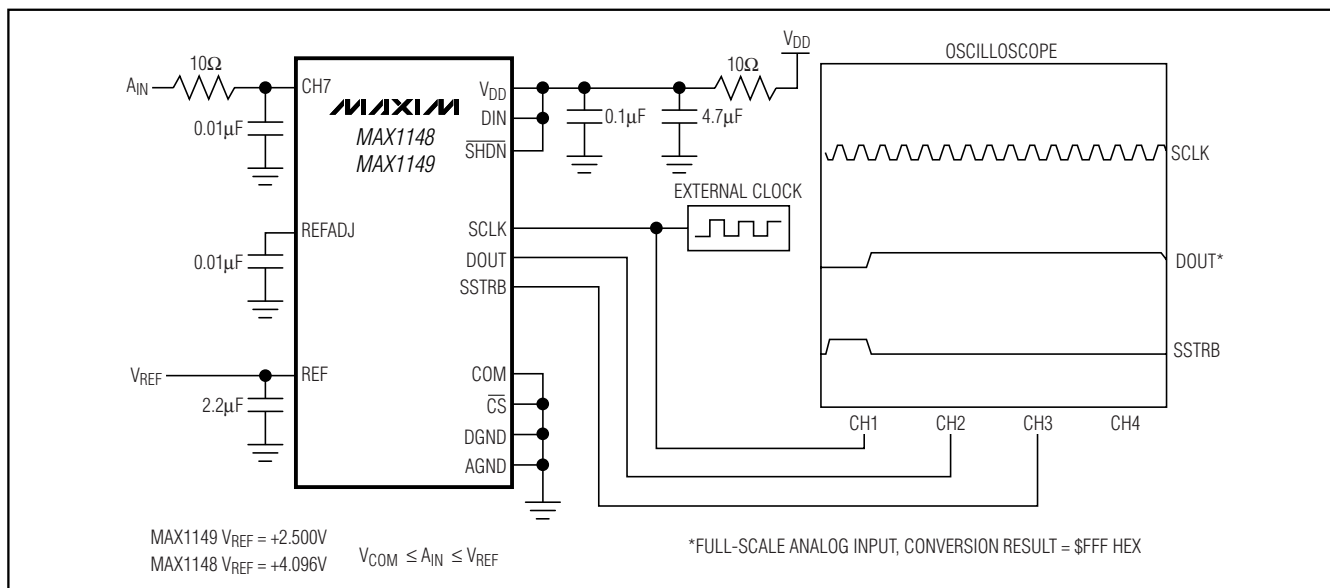
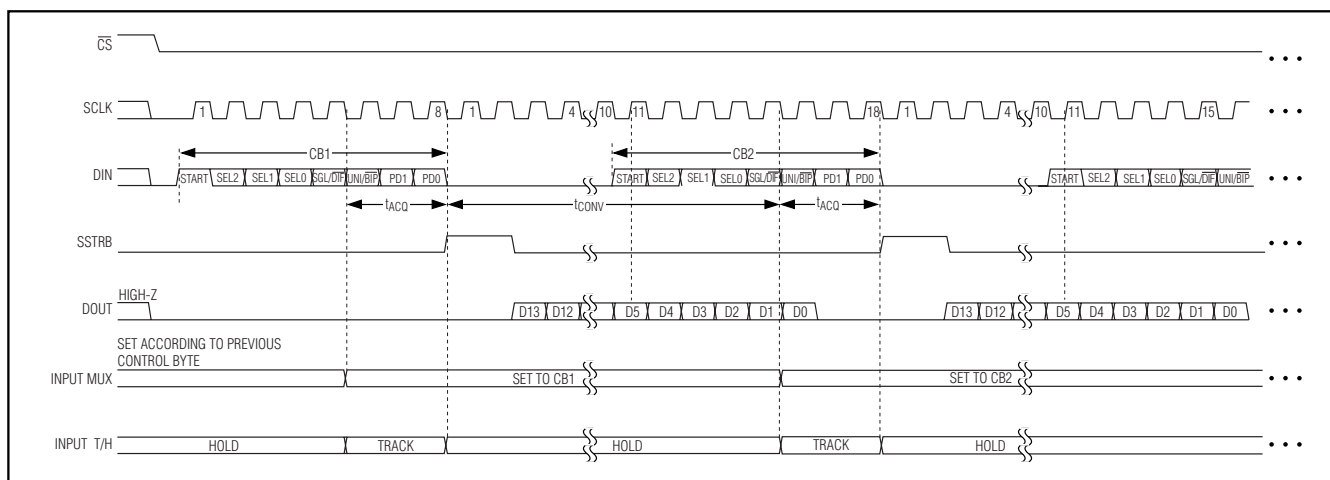

Figure 7. Quick-Look Circuit
Figure 10. External Clock Mode—18 Clocks/Conversion Timing
Use the circuit of Figure 7 to quickly evaluate the MAX1148/MAX1149. The MAX1148/MAX1149 require a control byte to be written to DIN using SCLK before each conversion. Connecting DIN to V_{DD} and clocking SCLK feeds in a control byte of \$FF HEX (see Table 1). Trigger single-ended unipolar conversions on CH7 in external clock mode without powering down between conversions. In external clock mode, the SSTRB output pulses high for two clock periods before the MSB of the 14-bit conversion result is shifted out of DOUT. Varying the analog input to CH7 alters the sequence of bits from DOUT. A total of 18 clock cycles are required per conversion (Figure 10). All transitions of the SSTRB and DOUT outputs occur on the falling edge of SCLK.
- 2) The first high bit clocked into DIN after bit 5 of a conversion in progress is clocked onto DOUT (Figures 10 and 11).
The fastest the MAX1146-MAX1149 can run with $\overline{CS}$ held low between conversions is 18 clocks per conversion. Figures 10 and 11 show the serial-interface timing necessary to perform a conversion every 18 SCLK cycles.